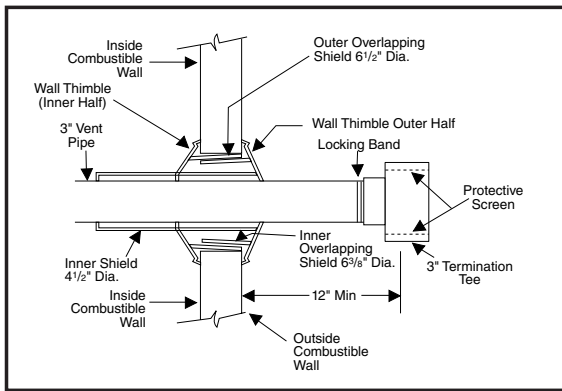

Figure 15. Typical Termination
11. Cut an 8 inch minimum piece of vent pipe and connect the coupling to the termination tee. The inside of the tee must be a minimum of 12 inches from the outside of the wall. (See Figure 15.)